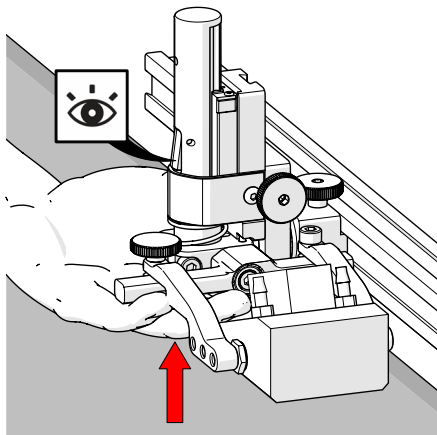
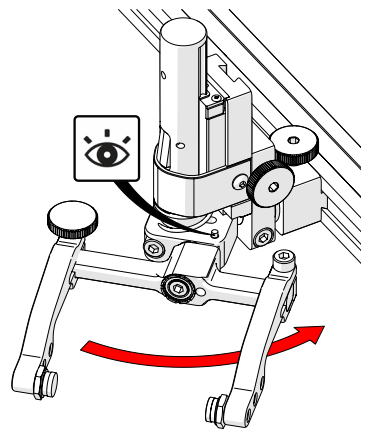

Fig. 95 - Latch probe holder
Fig. 101 - Stop post locates 90°
1. Ensure the probe holder is in the latched, upper position. Lift the probe holder until the latch is fully exposed and snaps out to lock (Fig. 95).
1. Ensure the probe holder is in latched, upper position (*Fig. 95*).
To return the transverse adjustment to neutral ( $90^\circ$ ). The probe holder must be in the latched, upper position (*Fig. 95*). Rotate the yoke until the stop post contacts the base of the probe holder (*Fig. 101*). Then tighten the transverse adjustment screw.
1. Ensure the probe holder is in latched, upper position (Fig. 95).